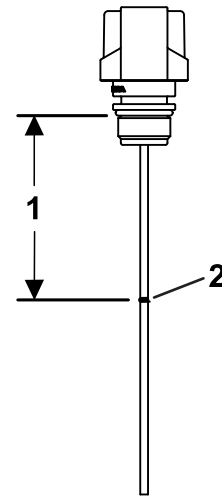

Figure 4
9. Trim the dipstick to the marked trim line at 9.5 cm (3-3/4 inches) as shown in Figure 4, then install the dipstick into the leak-detector-tank opening.